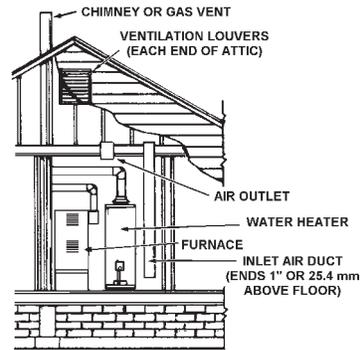

FIGURE 8.
- When communicating with the outdoors through vertical ducts, each opening shall have a minimum free area of 1 square inch per 4,000 Btu per hour (5.5 cm2/kW) of total input rating of all equipment in the enclosure, see Figure 8.